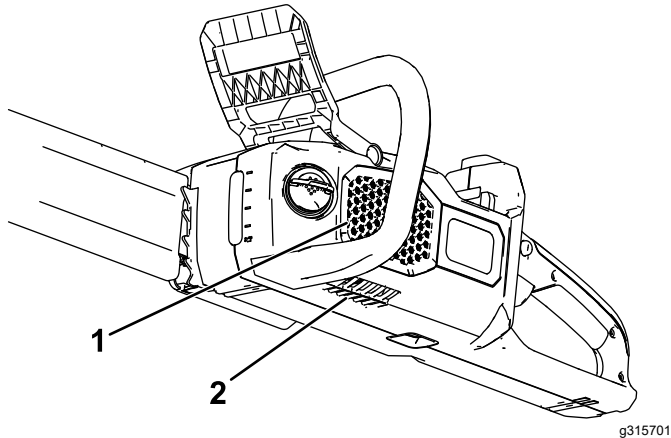

Figure 6
1. Ensure that the vents on the chain saw are free from dust and debris (Figure 6).